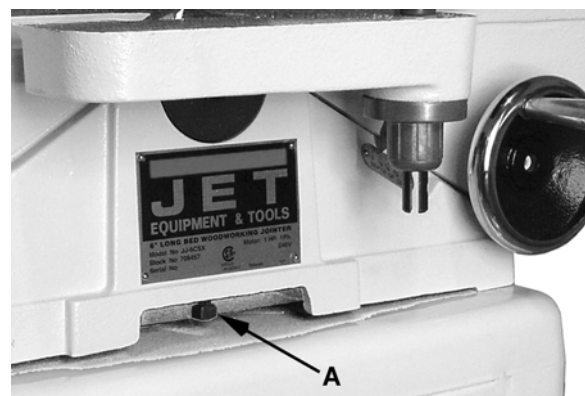

Figure 44
6. Using an 8mm hex wrench, loosen two hex cap screws underneath *fence base casting* (E) that secure the casting to the *table* (F). Remove the *fence base casting* and set aside.
7. Remove four *screws* and *washers* (A) securing the *belt guard* (B). Remove the *belt guard*.
8. Remove the *V-belt* (C) from the *cutterhead pulley* (D). If necessary, loosen the *motor mounting screws* with a 12mm wrench to provide slack on the V-belt.
9. Using a 3mm hex wrench, loosen two set screws that secure the *cutterhead pulley* (D) to the cutterhead shaft. Set the pulley and shaft key aside.
10. Using a 14mm wrench, remove two *screws* (A, Fig. 44) and *lock washers* that secure the cutterhead bearing housings to the base.